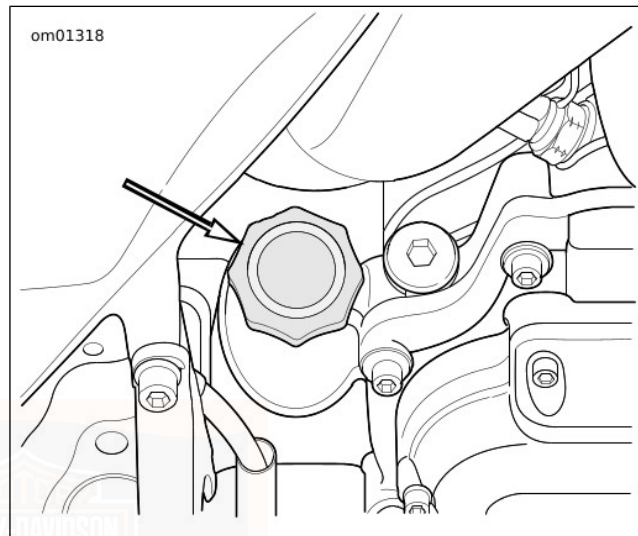

Figure 82. Engine Oil Filler Cap
2. See Figure 82. Check engine oil level.
3. See Figure 82. Check oil level.